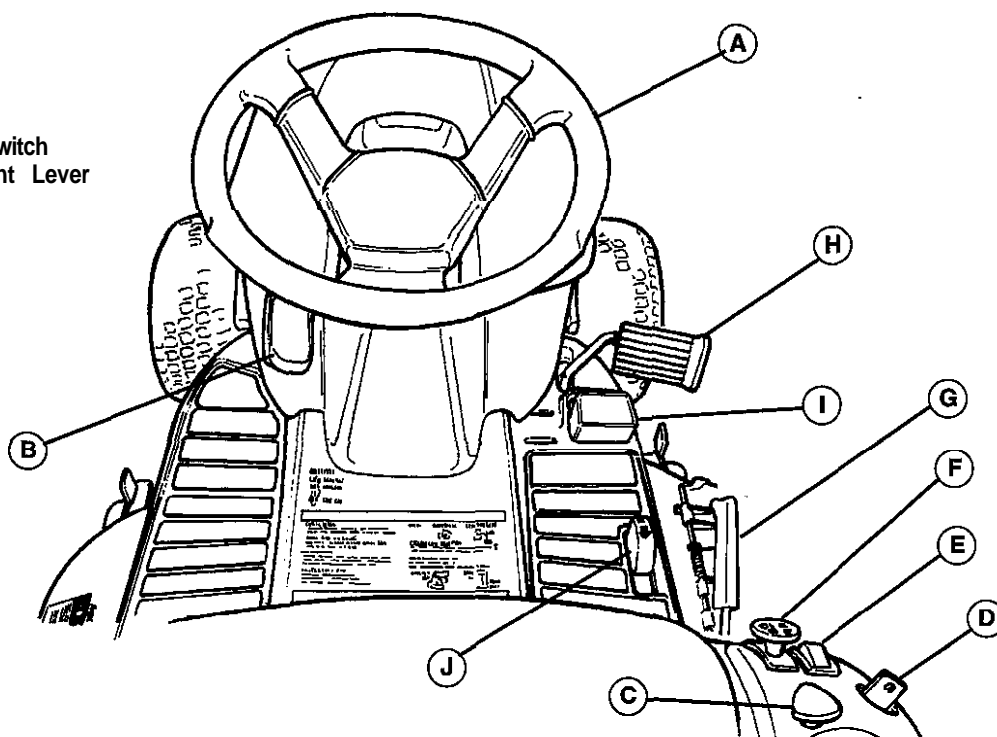

Figure 2. Tractor & Mower Controls - Hydro Model
NOTE: Once the engine has stopped, the PTO switch (F, figures 2 & 3) must be turned off after operator returns to the seat in order to start the engine.
2. Set engine throttle control (B, figures 2 & 3) all the way up to CHOKE. A warm engine may not require choking.
3. Disengage the PTO by pushing the switch all the way down (F, figures 2 & 3)
4. **On hydro models**, with your foot off the pedals (I & J, figure 2) the tractor is in the neutral position.
5. Insert the key into the ignition switch (D, figure 2 & 3) and turn it to START.
6. Move the engine throttle control (B, figures 2 & 3) to SLOW. Warm up the engine by running it for at least a minute before engaging the PTO switch or driving the tractor
On hydro model, ground speed is infinitely variable according to how far the pedals (I & J, figure 2) are moved in the forward or reverse position.